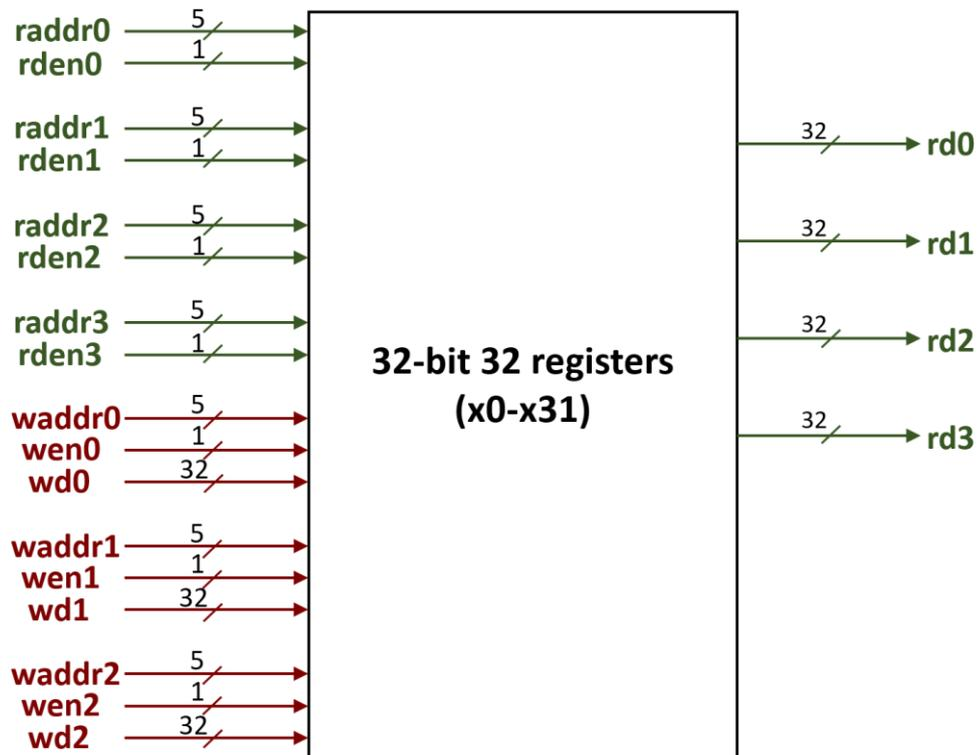

Figure 6. Register File available in SweRV EH1
- **Register File:** The Register File available in SweRV EH1 processor (Figure 6) has 4 read ports and 3 write ports (note that the third write port is ignored in the Register File included in Figure 4 as it is only used for specific situations that we will analyse in future labs). These read/write ports allow the execution of two instructions per cycle. The inputs coming from the Register File are shown in the 3:1 and 4:1 multiplexers from Figure 4 using only the names of the signals. The connections with the Register File are not shown for the sake of simplicity.
The final stage, the Writeback stage, writes the results to the Register File using the two first write ports (0 and 1) illustrated in Figure 6 (in lab 14 we will see when the third write port – 2 – is used). Not all cycles will write two results: some instructions do not write a register (i.e., branch instructions, store instructions...), and not all cycles execute two instructions. The register identifiers and the enable signals were generated in the Decode stage and are provided by the Control Pipeline Registers.